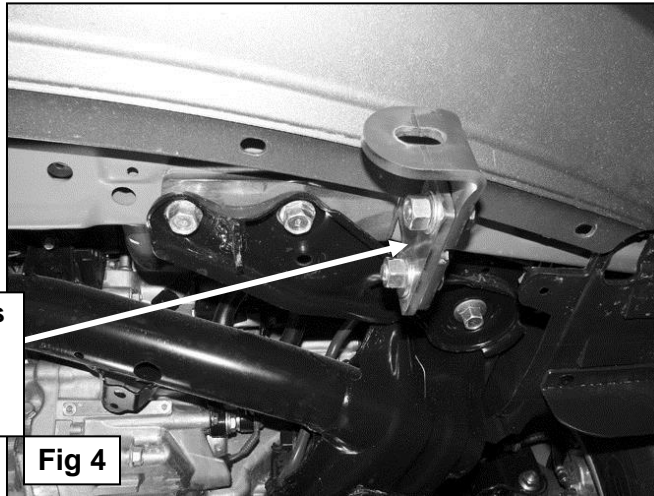

Fig 4
4. Select the driver side Mounting Bracket, **(Figure 3A & 3B)**. Bolt the Mounting Bracket to the outside of the Frame Mounting Bracket with the included (2) 12mm x 35mm Hex Bolts, (2) 12mm Lock Washers, (4) 12mm Flat Washers and (2) 12mm Hex Nuts, **(Figure 4)**. Snug but do not tighten hardware at this time. Repeat Steps 3 & 4 for the passenger side bracket installation.